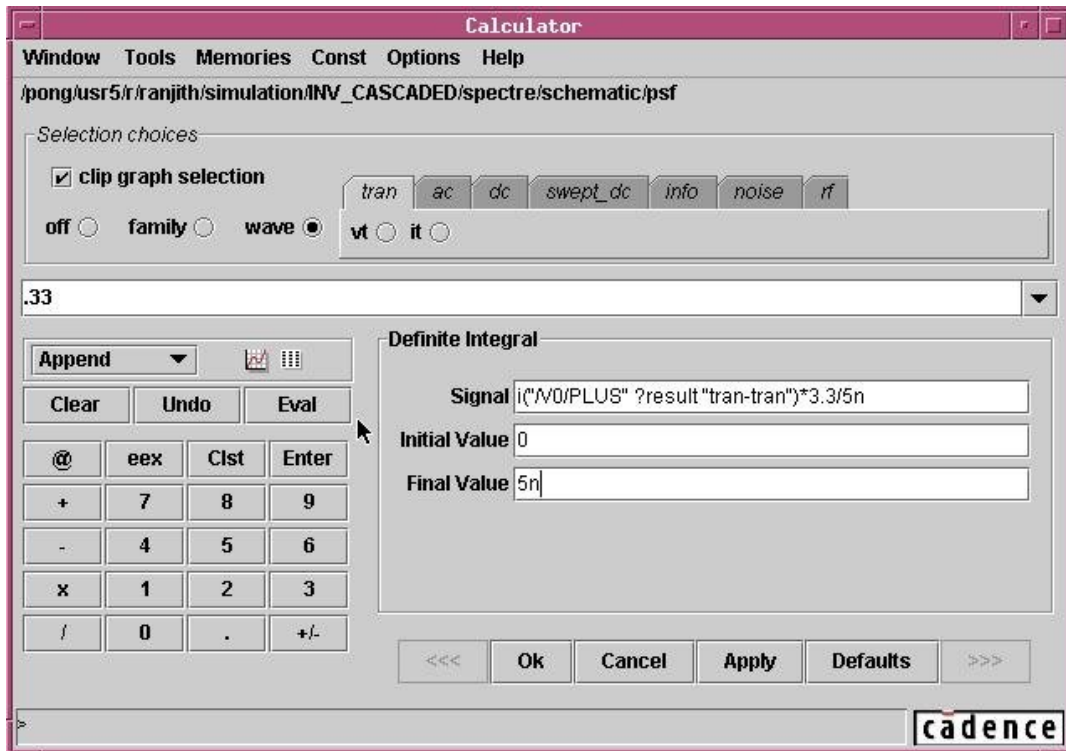

Fig. 8. The Calculator Window after loading all the necessary text-boxes
- The waveform window will now resemble Fig. 8.